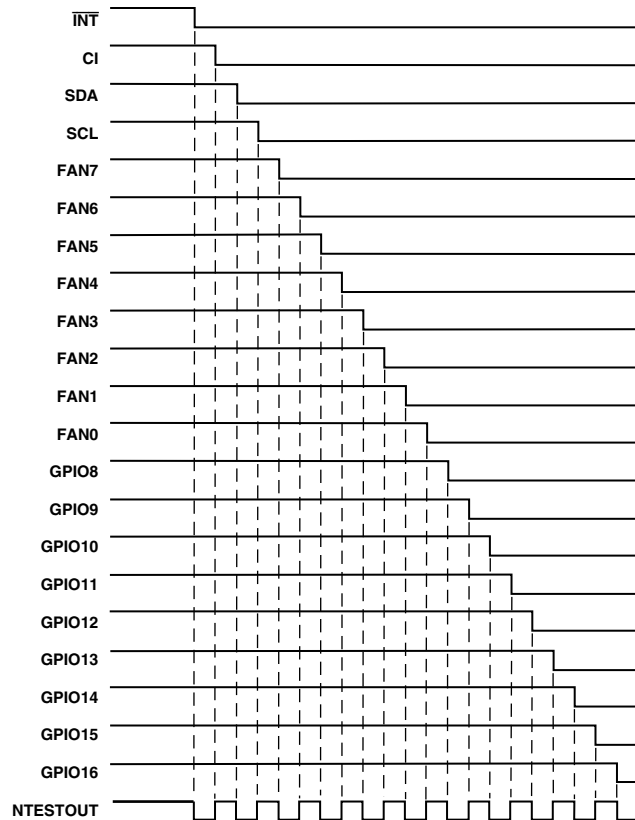

Figure 27. NAND Tree Test taking Inputs Low In Turn
2. Start with all inputs high and take them low in turn, starting with the input furthest from NTEST\_OUT ( $\overline{\text{INT}}$ ) and working down the tree to the input nearest to NTEST\_OUT (GPIO16/THERM). This should give a similar output pattern to Figure 27.